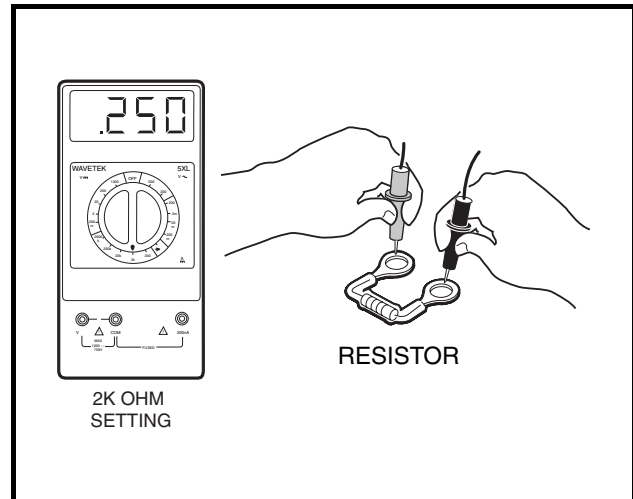

Figure 11-24 Resistor Test
3. Use a multimeter set to 2k ohms to check for resistance between both resistor terminals. If reading is not approximately 250 ohms, replace the resistor (**Figure 11-24, Page 11-21**).